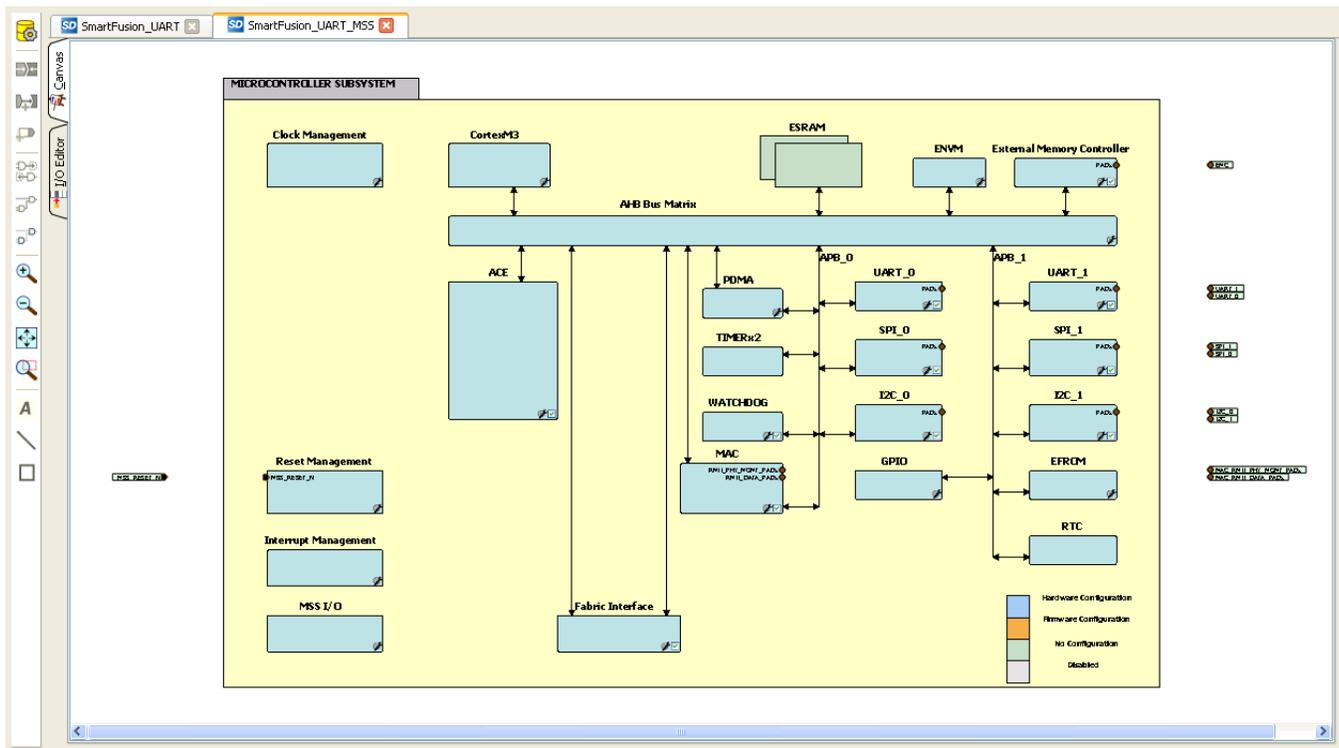

Figure 5 · MSS in the SmartDesign Canvas
1. Double-click the **SmartFusion_UART_MSS_0** component to configure the MSS. The MSS is displayed in the SmartDesign Canvas in a new tab, as shown in Figure 5 .